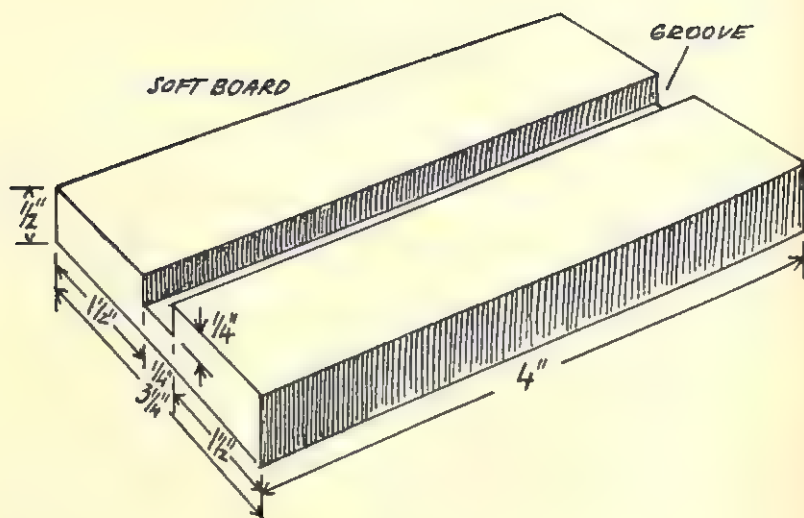

Figure 182
- (a) *From softboard.* Make the first from a piece of softboard 4 inches by $3\frac{1}{4}$ inches. Cut the groove to take the body of the insect $\frac{1}{4}$ inch wide and $\frac{1}{4}$ inch deep, as shown in Figure 182. All flat-head wood screws used should be No. 6, $\frac{3}{4}$ inch long.